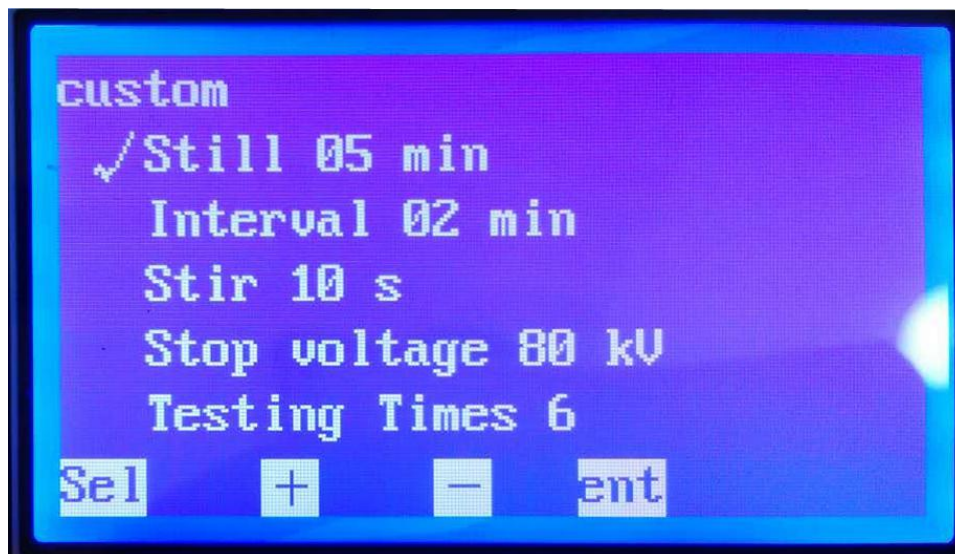

Figure 6. A custom Settings page
6. In figure 2 page, press the select key to move the cursor) Settings, press the ok button to enter the custom set child pages (figure 6);
In figure 6 pages, press the select key move the cursor to the corresponding option, then press the + or - key parameters can be set.Among them: